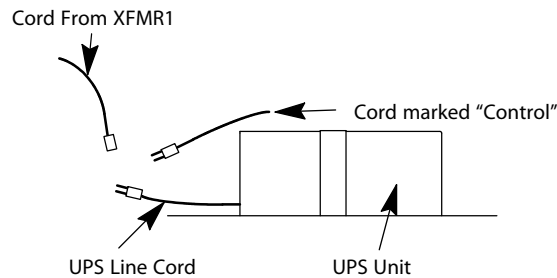

Figure 2 - UPS Unit Connections
5. On jobs with battery lowering, verify the following connections. See Figure 2. If connected, unplug,